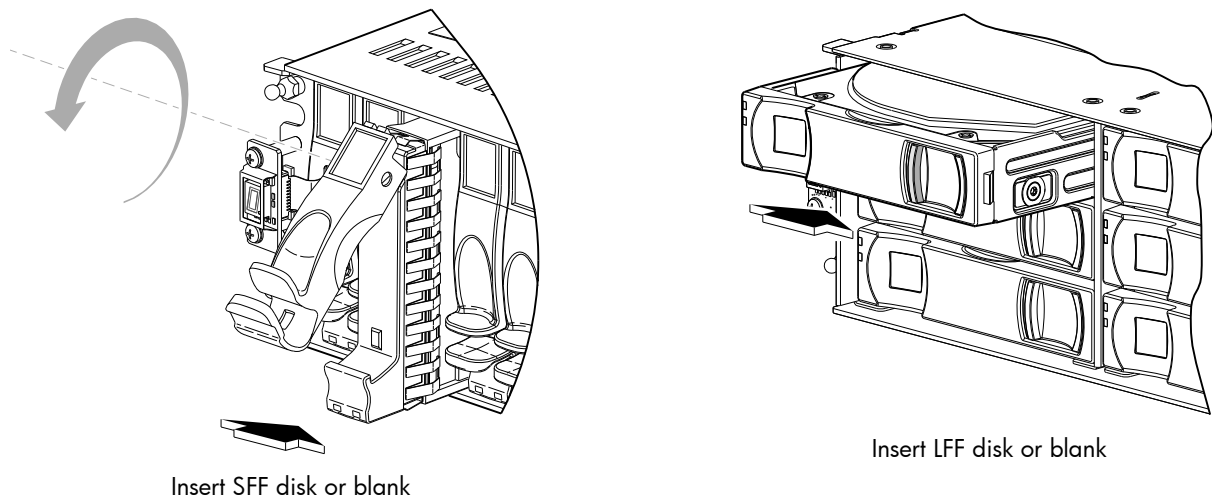

Figure 20 Installing a disk drive module
- a. SFF disk — With the LEDs oriented to the bottom, slide the disk drive module into the drive slot as far as it will go (see left illustration in Figure 20).
- b. LFF disk — With the LEDs oriented to the left, slide the disk drive module into the drive slot as far as it will go (see right illustration in Figure 20).
Verify that the Power/Activity LED—located on the front face of the disk drive escutcheon—is illuminated green. On LFF disks, this is the bottom LED. On SFF disks, this is the left LED. Both sets of LEDs are shown in Figure 20 on page 34.